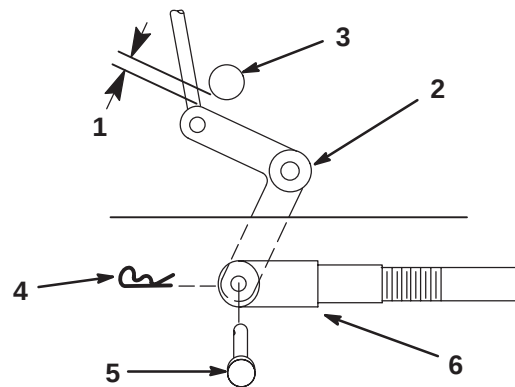
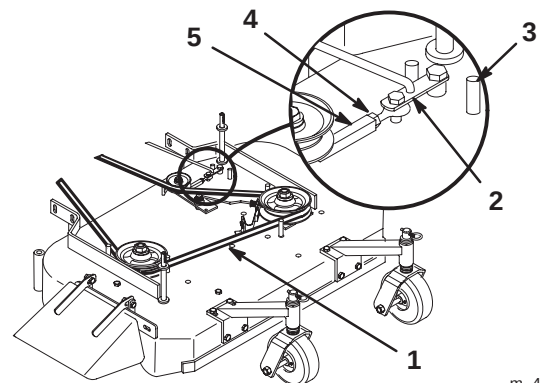

Figure 57
Figure 58
9. Check the clearance between the bell crank and the transmission output shaft (Fig. 57).
11. Rotate the clevis clockwise on the rod to increase the clearance; rotate it counterclockwise to decrease it (Fig. 57).
Note: If the assist arm does not contact the front stop on the mower deck (Fig. 58), adjust the clevis to bring the bell crank closer to the transmission output shaft (Fig. 57).
3. Loosen the locknut on the turnbuckle (Fig. 58).
4. Rotate the turnbuckle toward the rear of the mower to increase the tension on the belt. Rotate the turnbuckle toward the front of the mower to decrease the tension on the belt (Fig. 58).